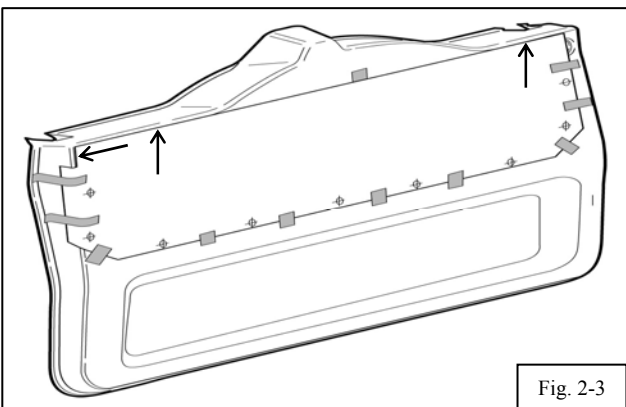

Fig. 2-3
-  (a) Align upper edge of paper marking template to upper edge of back door panel. (Fig. 2-3)
-  (b) Align cutout on upper left corner of paper drill template to upper left corner of back door panel. (Fig. 2-3)
(c) Use tape at locations indicated on the template to hold the template in place. (Fig. 2-3)